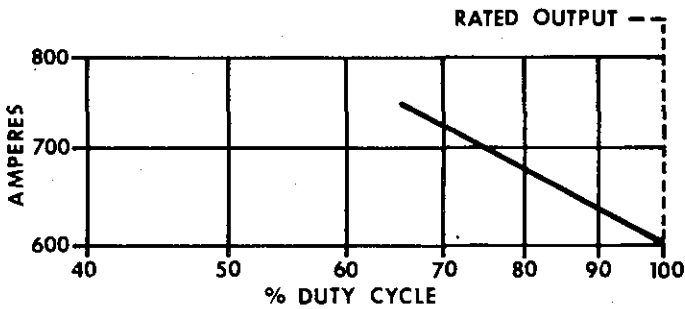

Figure 7 -- Duty Cycle Chart
□A. The duty cycle is the percentage of a ten minute period time that a welding machine can operate at a given output current setting. This machine is rated at 100 percent duty cycle, that is, this 600 ampere machine may be operated at 600 amperes welding current continuously. If the welding current is increased, the duty cycle will decrease. Duty Cycle Chart, Figure 7, enables the operator to determine the safe output of the welding machine at various duty cycles.
□C. The flat, positive (slope) terminal rating of 600 amperes may be exceeded, but a reduced duty cycle must be observed. Refer to the Duty Cycle Chart, Figure 7, for safe operating time above rated load when using the 600 ampere terminal. Remember, the amperage rating of the 600 ampere (flat) terminal may be exceeded with a reduced duty cycle being observed, however, this DOES NOT apply to the other slope terminals. This means that no more than the rated amperage which is shown above each terminal may be drawn from the other three (3) slope terminals.